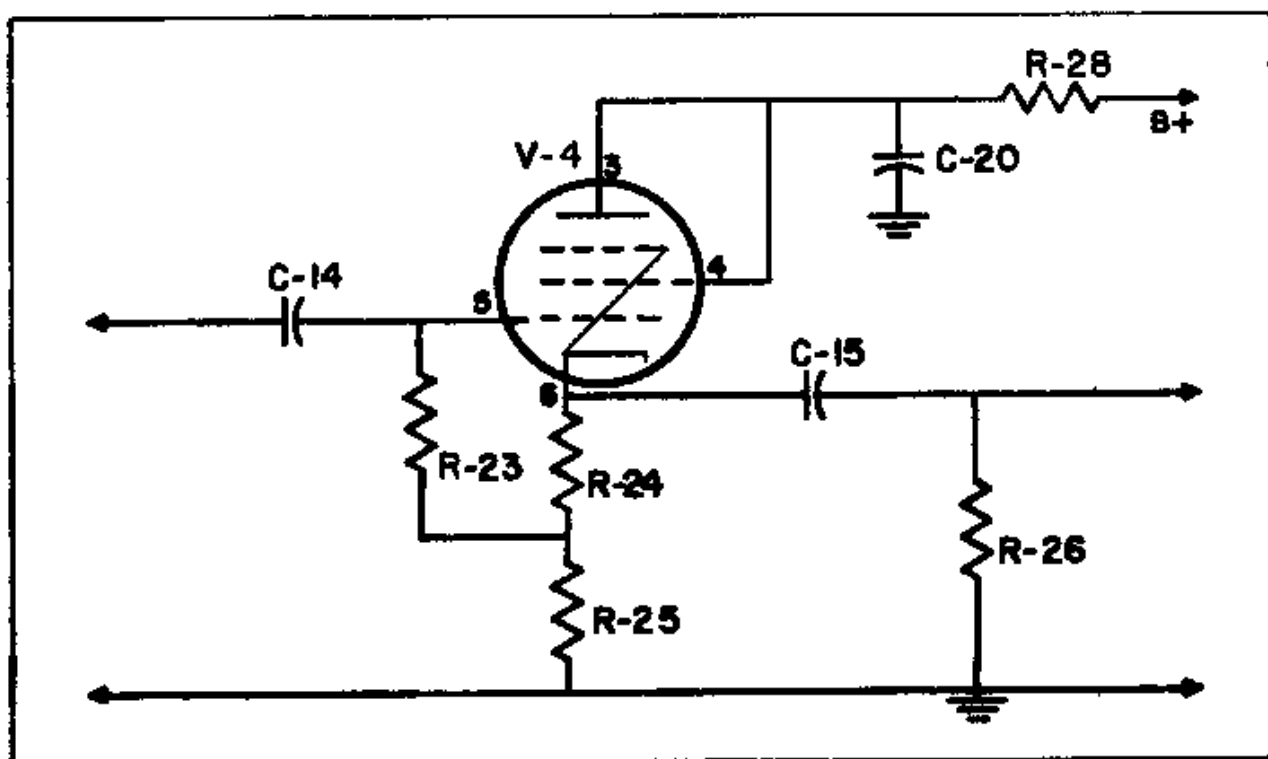

FIG. 14
**THE CATHODE FOLLOWER OUTPUT CIRCUIT:** (See Fig. 14) In this circuit, the voltage applied to the grid of tube, V4, varies the current through the tube, which in turn varies the voltage across the total cathode resistor (R24 and R25). The output voltage is taken out through the large capacitor, C15, which presents a very low impedance over the entire frequency spectrum. The cathode resistance is split into R24 and R25 to provide the proper bias.